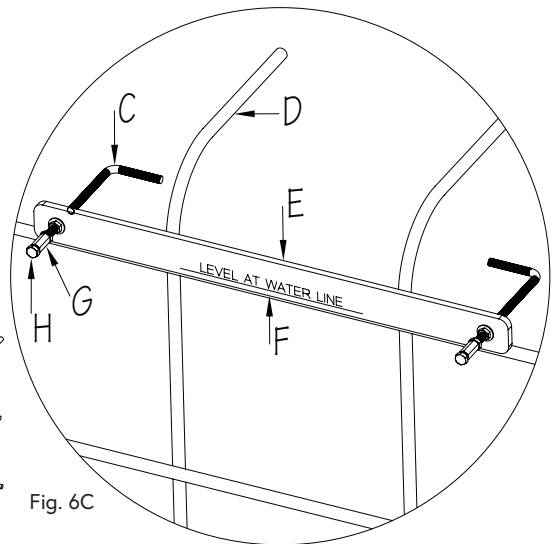

Fig. 6C
The Grab Bar Mounting Kit should be centered above the Fastlane Tread Mounting Kit. Position the Bracket (E) so that the "Waterline" marking (F), engraved into the bracket, sits along the pool's expected waterline. In addition, the Coupler (G) should be flush with the expected finished pool wall. The Sacrificial Bolt (H) will be removed after the concrete is poured. Once in position, secure the Threaded Rods (C) to the Rebar Grid (D) using rebar ties (Fig. 6C). **Refer to the detail drawing on the following page to supplement these instructions.**